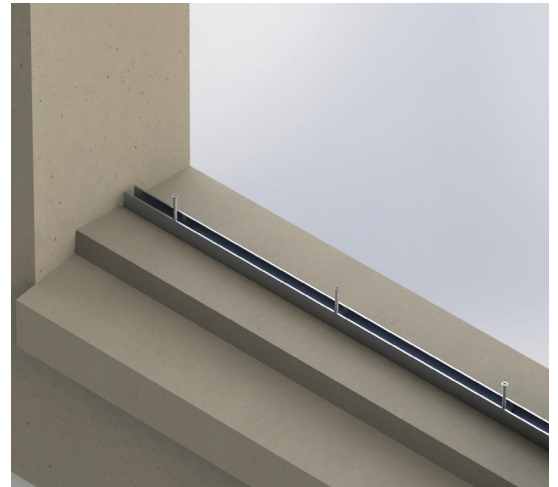

Fig. 7
- Pre-drill holes and fasten the U-channel with screws by others per shop drawings or anchorage calculations. Typically 3" from the ends and 12" on center. (Fig. 7)